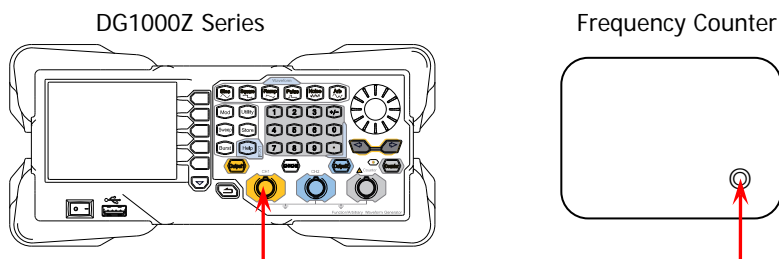

Figure 2-1 Connect DG1000Z and the Frequency Counter
1. Make sure that the environment temperature is between 18°C and 28°C and DG1000Z has been warmed up for at least 30 minutes. Connect the channel output terminal (take CH1 as an example; the test method is also applicable to CH2) of DG1000Z with the signal input terminal of the frequency counter using a dual-BNC cable as shown in Figure 2-1.